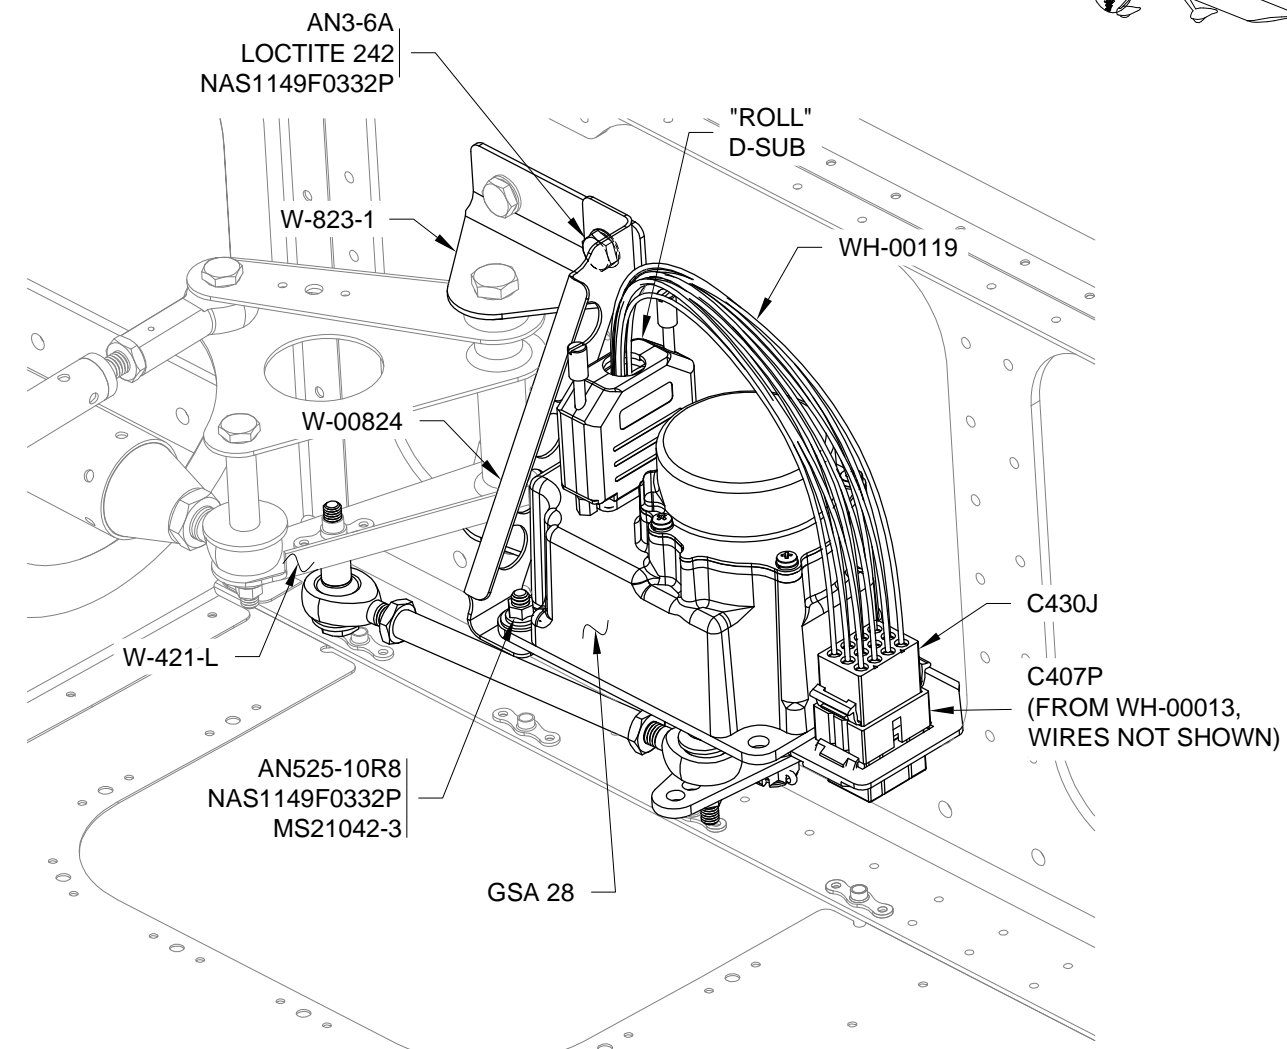

FIGURE 2: CONNECT ROLL SERVO
Step 12: Attach the roll servo pushrod assembly to the W-421-L Aileron Bellcrank as shown in Figure 2 and Figure 3.